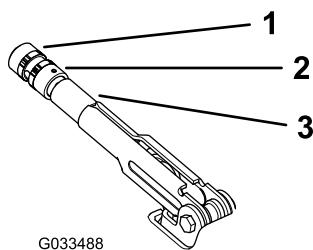

Figure 57
2. Loosen the set screw securing the knob to the parking-brake lever (Figure 57).
3. Rotate the knob (Figure 57) until a force of 20 to 22 kg (45 to 50 lb) is required to actuate the lever.
4. Tighten the set screw when finished (Figure 57).